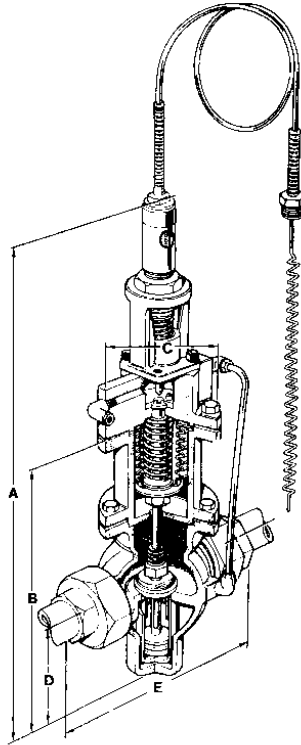
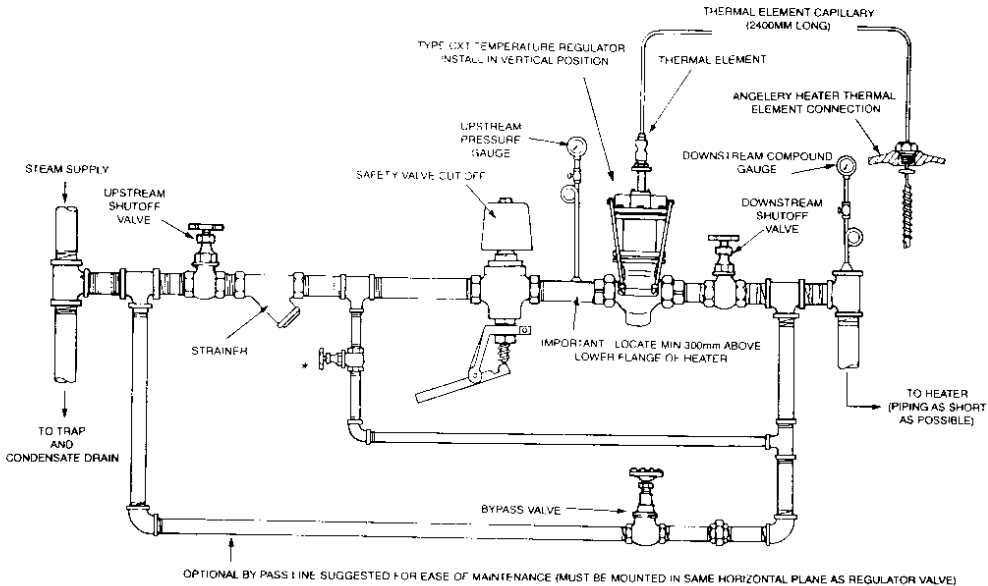

Figure 1. Dimensions for Temperature Regulator,
Figure 2. Schematic showing recommended installation for temperature regulator type CXT-S
1. Refer to Figure 1 for dimensions. Install the Regulator in accordance with Figure 2 and the following instructions 2 to 9.
4. Refer to Figure 2 and install a "Y" type steam strainer and pressure gauge upstream of the Regulator and a compound pressure gauge on the downstream side. The by-pass valve (optional) should be a manually operated metal seat regulating valve. Shut-off valves should be metal seat globe or parallel slide pattern.
9. The system should incorporate a Safety System using the solenoid valve shown in Figure 2.
When the Regulator has been installed in the steam line and all connections tightened leakproof, fit the thermal element assembly to the Regulator and Angelerly Heater as shown in Figure 2, with the bellows end in the Regulator Pilot Adjustment Sleeve and the bulb coil in the thermal element connection in the Angelerly Heater.
- a) Clean the steam strainer in the steam line (See Fig 2).
- a) Check all connections and pipework are in accordance with Figure 2 and correctly assembled as detailed in steps 1 to 9 under INSTALLATION on Page 15.
- d) Check the Thermal Element is properly installed in the Regulator Adjustment Sleeve (34) and in the correct connection in the Heater.